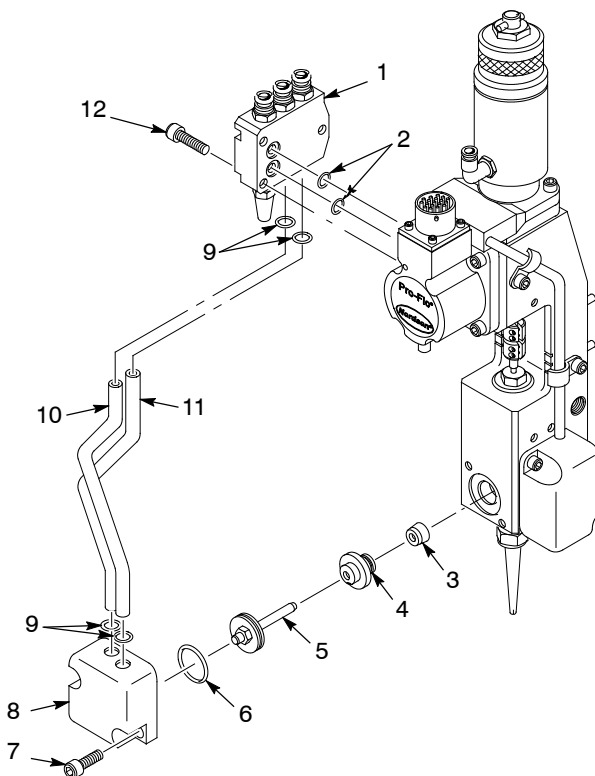

Figure 12 Replacing the MCO Assembly
2. See Figure 12. Remove the screws (12) securing the air manifold (1) to the gun body. Remove the air manifold and air manifold O-rings (2) from the gun body.
3. Remove the MCO extend (10) and retract air lines (11) and the upper air line O-rings (9) from the air manifold.
4. Loosen the screws (7) and remove the MCO housing (8).
5. Remove the extend and retract air lines and the lower air line O-rings (9) from the MCO housing.
6. Remove the MCO piston (5) from the gun body.
7. Remove the MCO seal (3) and seal housing (4) from the gun body.
1. See Figure 12. Install the MCO seal (3) in the gun body with the flared edge inward.
2. Push the seal housing (4) into the gun body.
3. Lubricate the O-ring (6) with O-ring lubricant and place it on the seal housing.
4. Coat the glide ring and shaft of the MCO piston (5) with O-ring lubricant and push the piston shaft into the seal housing until it bottoms.
5. Reinstall the MCO housing (8) on the gun body and tighten the screws (7) to 6.2–6.8 N•m (55–60 in.-lb).
6. Coat both ends of the extend (10) and retract (11) air lines and the air line O-rings (9) with O-ring lubricant. With the O-rings in place, insert the air lines in the air manifold (1) and MCO housing.
7. Lubricate the air manifold O-rings (2). Install the O-rings and tighten the screws (12) to secure the air manifold (1) to the actuator.